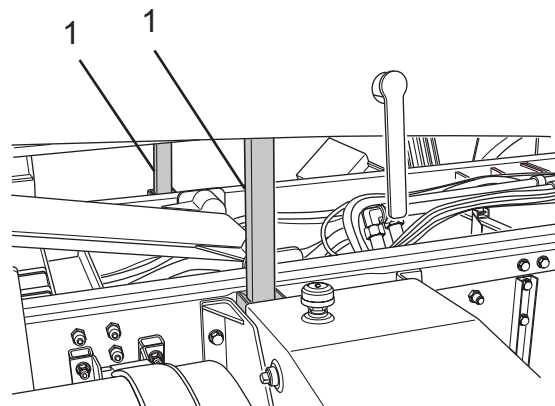

Figure 15
8. Lower the body until both props (Figure 15, Item 1) are securely seated into the pockets on the chassis frame.